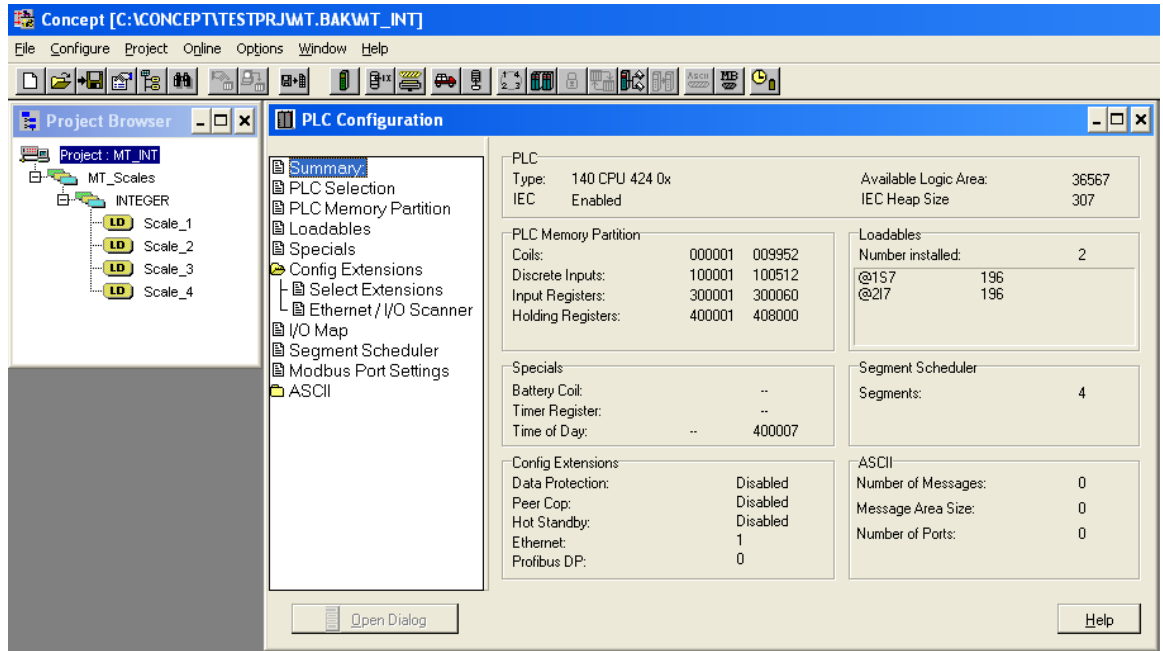

Figure 5-8: PLC Configuration Window
4. The PLC Configuration window (Figure 5-8) will open.